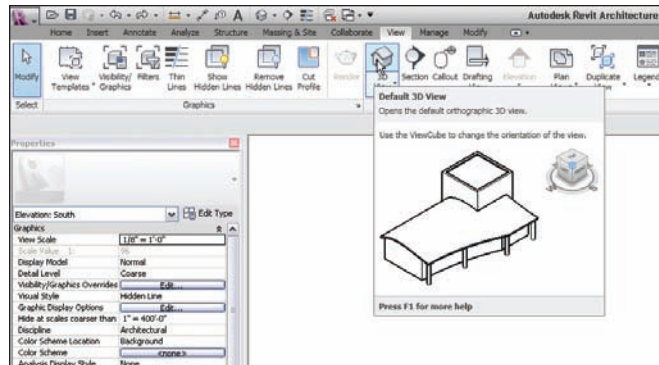

FIGURE 3.19 Clicking the Default 3D view icon
1. Click the Default 3D view icon on the Quick Access toolbar at the top of your screen, as shown in Figure 3.19.